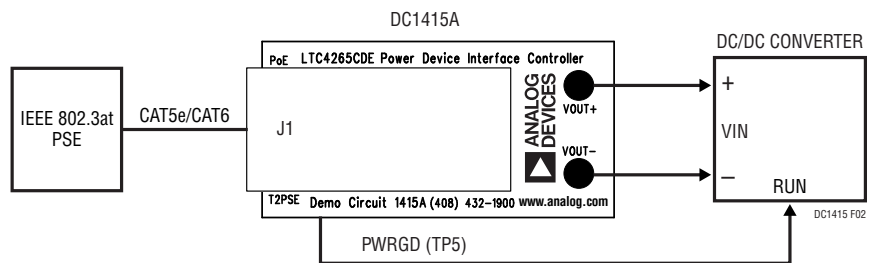
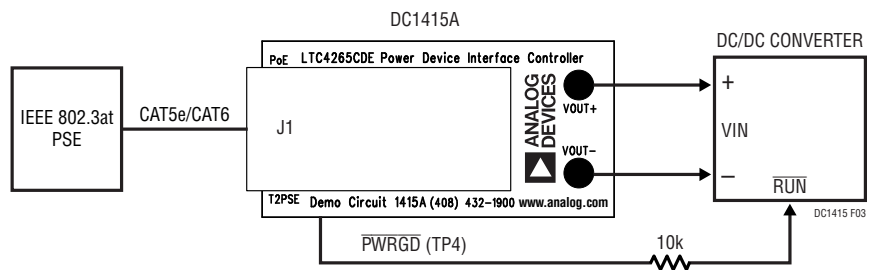
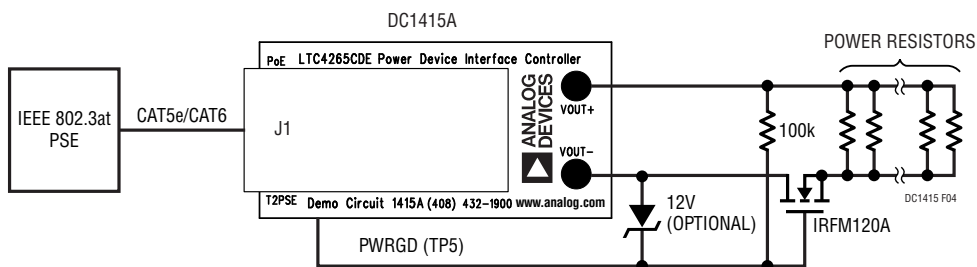

Figure 2. Connecting to a DC/DC Converter with Active-High RUN Pin
Figure 3. Connecting to a DC/DC Converter with Active-Low RUN Pin
Figure 4. Connecting to a Resistive Load
- b. Use Figure 2 or Figure 3 if the startup delay could be an issue.
- c. Use Figure 4 if the load is resistive.
Use PWRGD if the DC/DC converter has an active-high control input, as shown in Figure 2.
Use $\overline{\text{PWRGD}}$ if the DC/DC converter has an active low control input, as shown in Figure 3. A 10k resistor limits the current between PWRGD and $\overline{\text{RUN}}$ in the event of a voltage transient at the J1 input. A resistive load may be used to evaluate the thermal properties of the LTC4265; in this case use a series MOSFET to prevent startup problems, as shown in Figure 4. PWRGD holds the MOSFET gate low until the LTC4265 is ready to supply full current.
CAUTION: The MOSFET may be destroyed if its gate is pulled all the way to VOUT+ by the pull-up resistor. The MOSFET is protected by a 14V clamp inside the LTC4265; however, if the wire to PWRGD were disconnected—or mistakenly connected to $\overline{\text{PWRGD}}$ —then the MOSFET would not be protected. Therefore it is recommended to use a Zener diode connected directly across the gate and source pins of the MOSFET as shown in Figure 4.